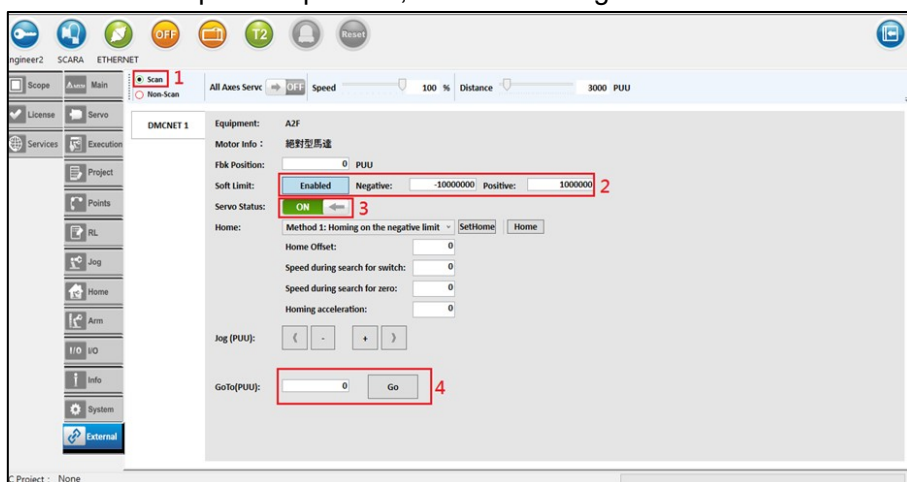

Figure 3.15-1 External devices setting
5. Click **Go** to move to the specified position, as shown in Figure 3.15-1